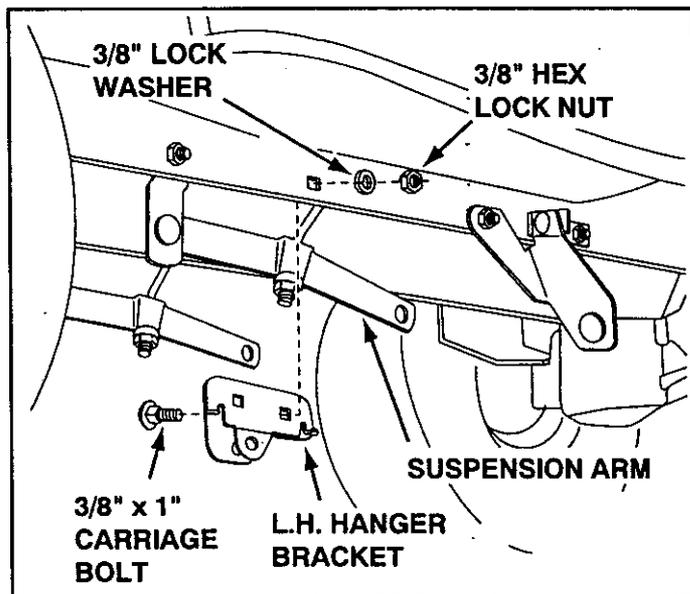

FIGURE 5
INSTRUCTIONS FOR TRACTORS NOT HAVING FOOT REST BRACKETS UNDER THE FOOT RESTS (Figure 5.)
- Locate the empty hole beneath the foot rest in the left side of the tractor frame as shown in figure 5. Attach the L.H. Hanger Bracket (marked "L") to the inside of the frame using a 3/8" x 1" carriage bolt, 3/8" lock washer and 3/8" hex lock nut. Make sure the bolt is assembled from the inside of the tractor frame. Repeat for the R.H. side. **HINT:** If the tractor's suspension arms are in the way, lower them using the attachment lift lever.